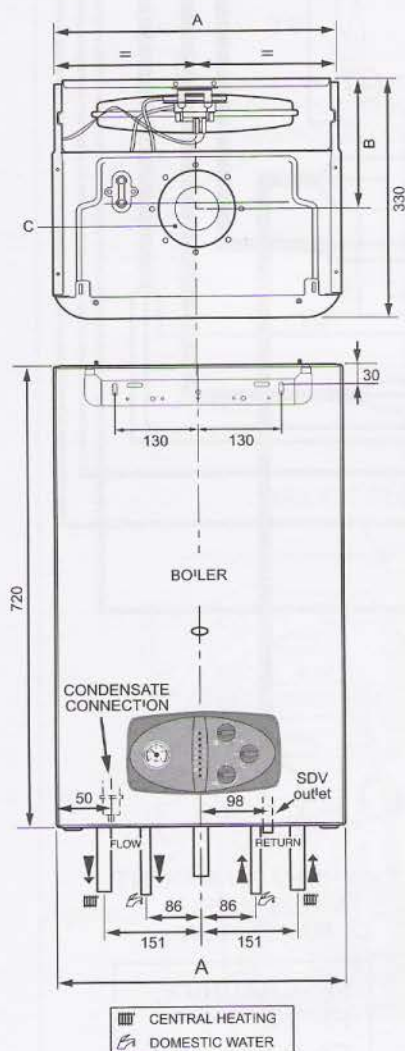

Figure 10.
10.1 Prior to installing the boiler check the contents of the carton: Appliance, Valves (Fixing Jig Optional), Wall Hanging Bracket, Mounting Template Service, Installation and User Manual, Guarantee Card and Benchmark Log Book. The boiler dimensions are given in Figure 10.